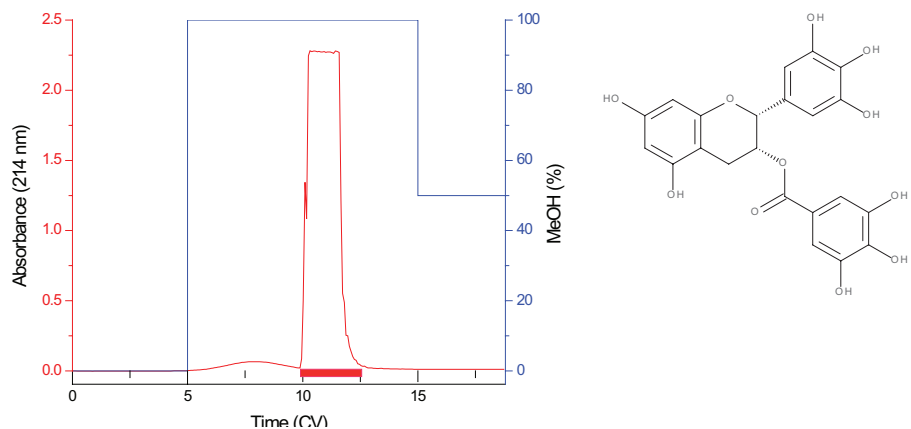

Figure 2: Elution of epigallocatechin gallate after removal of DMSO-d₆.
A sample (95 mg) of epigallocatechin gallate was isolated and dissolved in DMSO-d₆ for proton and carbon NMR analysis. A 5.5 g RediSep Gold C18Aq column (PN 69-2203-558) was conditioned by washing with 2 column volumes (CV) methanol, followed by 5 CV water. The 1 mL sample was removed from the NMR tube and the mixture dissolved in 5 mL water which was loaded on the column. The CombiFlash was run in manual control mode and the column was washed with 5 CV water to remove the DMSO. The column was then run with a step gradient to 100% methanol (Figure 2). The peak was monitored at 214 nm. The chromatogram shows the compound eluted in a single sharp peak. A linear gradient could be run if the compound required further purification. The sample load should be limited to 5% of the column weight to avoid sample “breakthrough”. For example, a 5.5 g RediSep Gold C18Aq column would desolvate up to ~250 mg sample. The column injection and wash should be captured if there is any question whether the desired compound will adsorb on a C18 column so as to avoid possible sample loss.